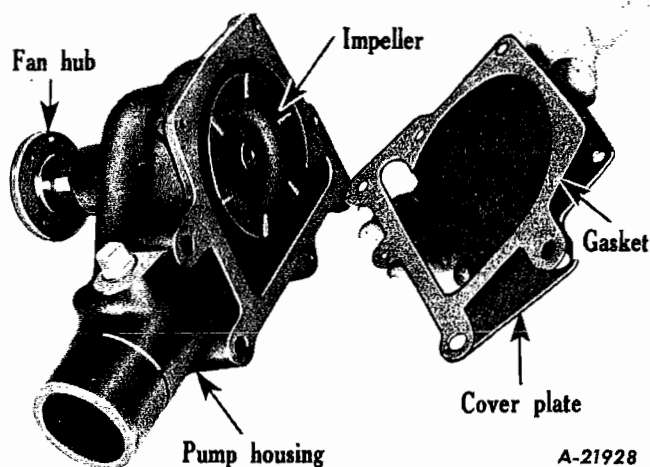

Fig. 33
3. Remove three screws from back cover plate. Remove plate and gasket from pump body (Fig. 33).